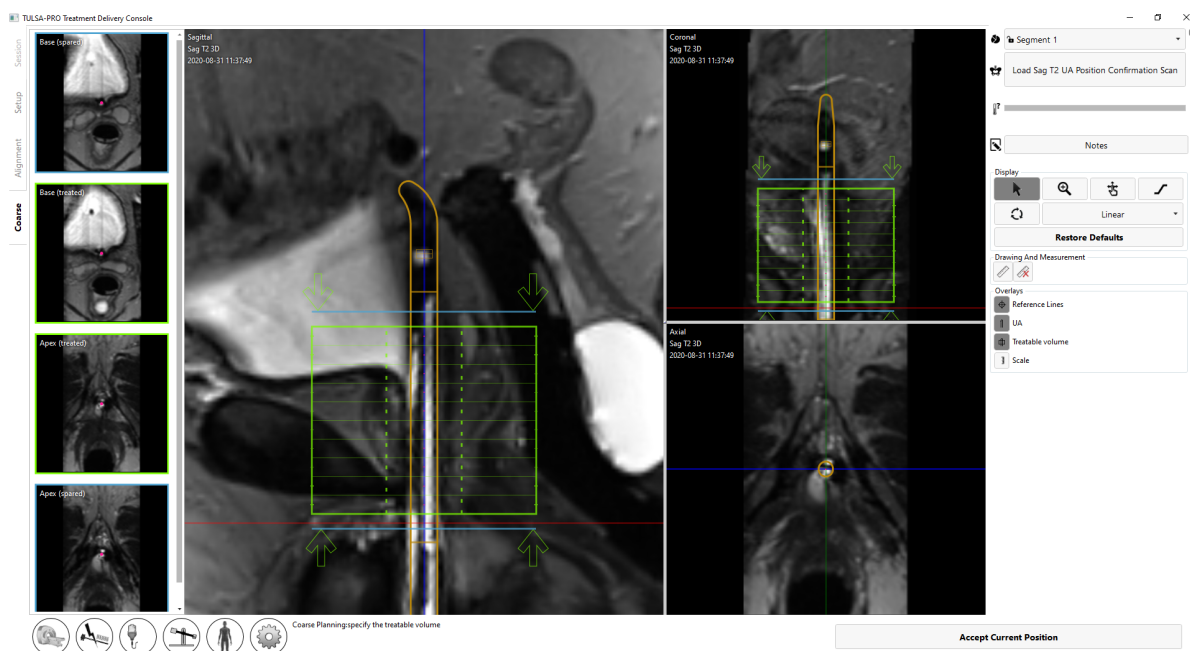

Figure 34: Coarse Planning workspace in TDC software
sagittal and coronal views are anatomical regions expected to be spared fully from thermal coagulation (Figure 34).
**NOTE:** When determining where to position the UA, identify the external urinary sphincter. If the external urinary sphincter cannot be identified, it should be considered immediately adjacent to the prostate apex. Place the light blue line below the first element on the external urinary sphincter (Figure 34).